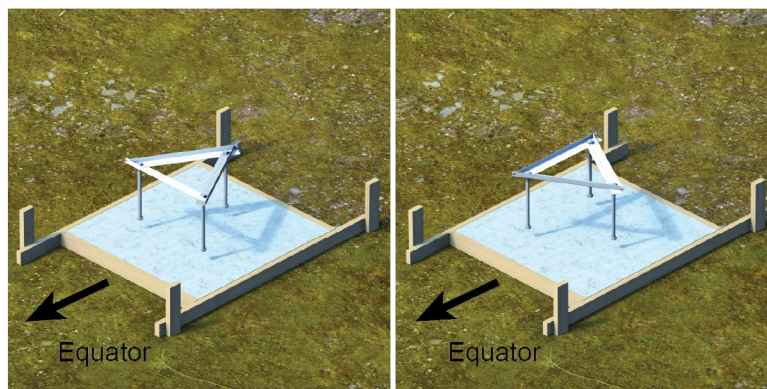

FIGURE 7-17. Template parallel and perpendicular to the equator
5. Immediately after screeding the concrete, determine the orientation of the UTBASE template. Orient the UTBASE template so one side of the template faces the equator (FIGURE 7-17 (p. 23)). This arrangement is optimal for mounting a solar panel on two tower legs facing the equator. In instances where a crossarm needs to run perpendicular to the equator, such as precision pyranometer measurements, rotate the UTBASE template 90° so one side faces East or West.